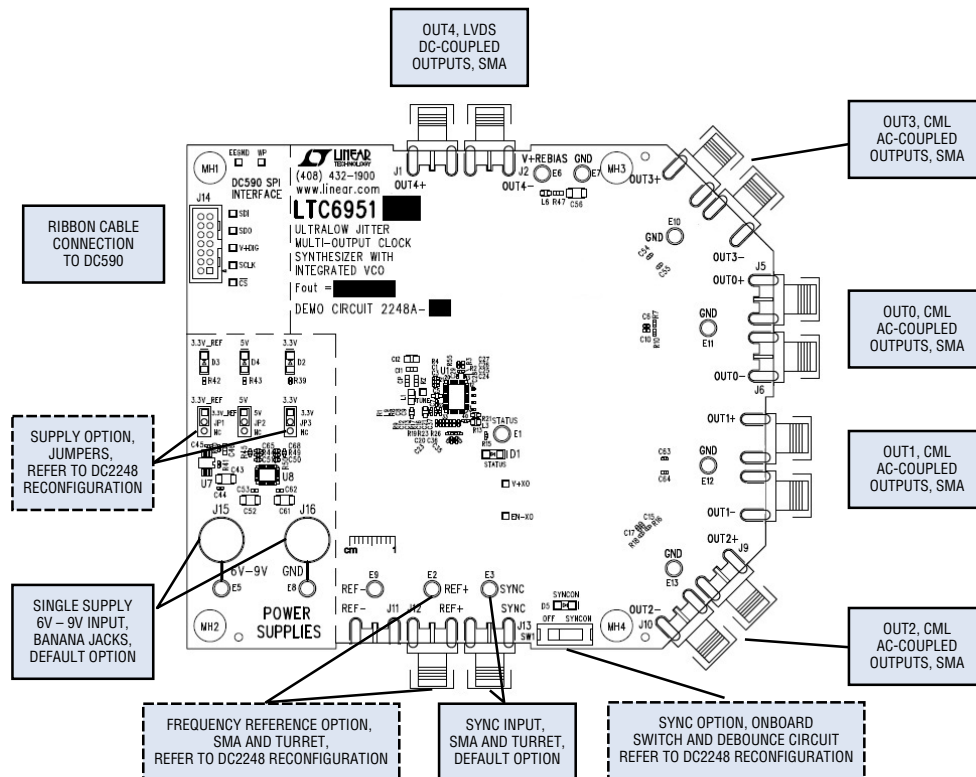

Figure 1. DC2248A Connections
1. Connect J15 and J16 to a power supply and apply power (see Figure 1 and the Typical DC2248A Requirements and Characteristics table). The three green power supply LEDs (D2, D3, D4) should illuminate at this point.